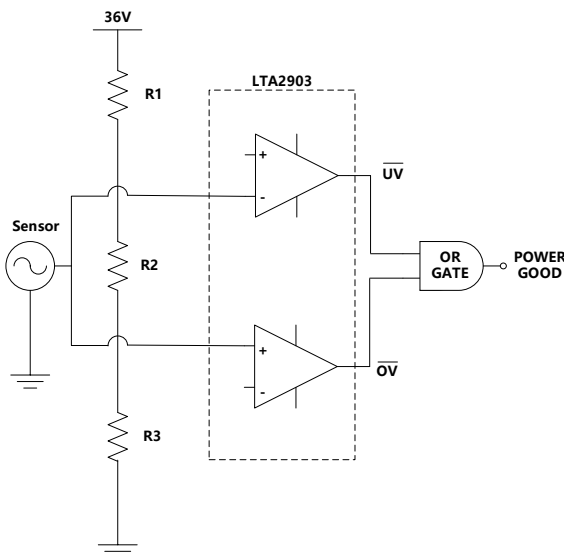

Figure 7: Window Comparator
Window Comparators are commonly used to detect undervoltage (UV) and overvoltage (OV) conditions. Figure 7 shows a simple window comparator circuit.
Configure the circuit as shown in Figure 7. Connect  $V_{S+}$  to a 36 V power supply and  $V_{S-}$  to ground. Make R1, R2 and R3 each 10Mohm resistors. These three resistors are used to create the positive and negative thresholds for the window comparator ( $V_{TH+}$  and  $V_{TH-}$ ). With each resistor being equal,  $V_{TH+}$  is 24 V and  $V_{TH-}$  is 12 V. Large resistor values such as 10Mohm are used to minimize power consumption. The sensor output voltage is applied to the inverting and non-inverting inputs of the 2-channel LTA2903's. The respective comparator outputs will be low when the sensor is less than 12V or greater than 24 V.  $V_{OUT}$  will be high when the sensor is in the range of 12 V to 24 V. See the application curve in Figure 8.